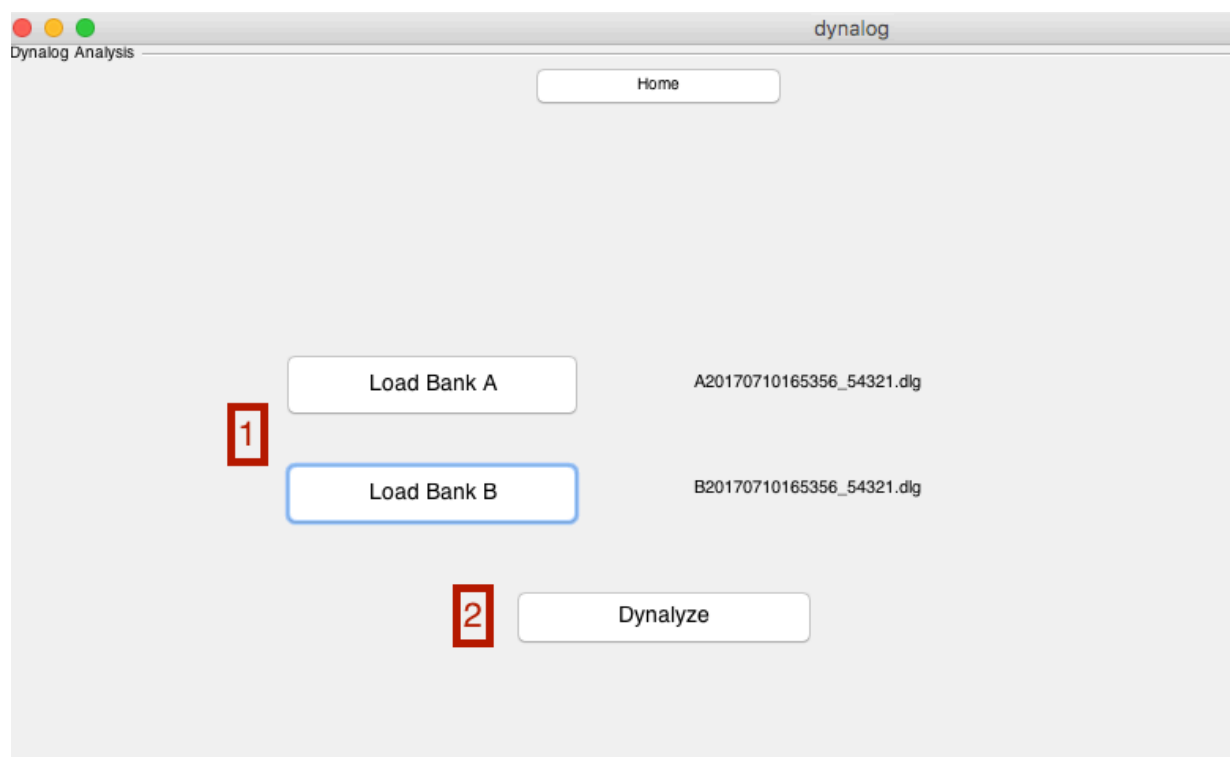

Fig. 11: QALMA Dynalog module (loading files).
1. Load VarianTM dynalog files for bank A and bank B. Two sample files are provided in the 'samples' folder. The user can load 'A20170710165356_54321.dlg' and 'B20170710165356_54321.dlg' files to follow the example (Fig. 11).
2. Click 'Dynalyze' (Fig. 11).